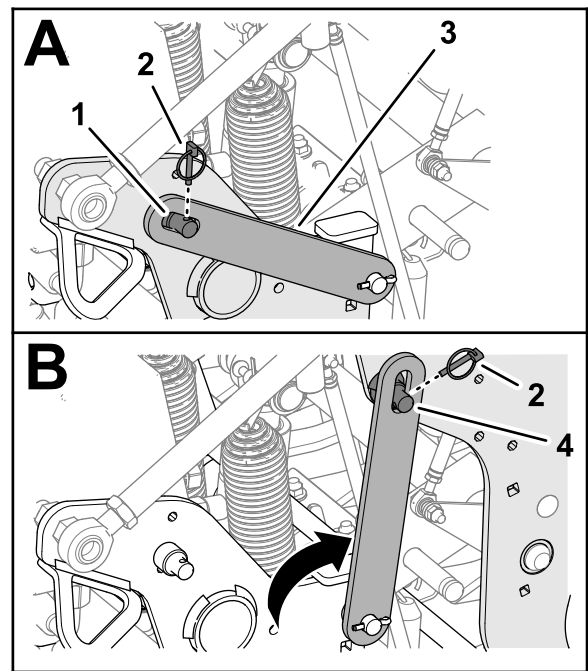

Figure 111
4. Remove the lynch pin securing the service latch to the side plate (Figure 111).